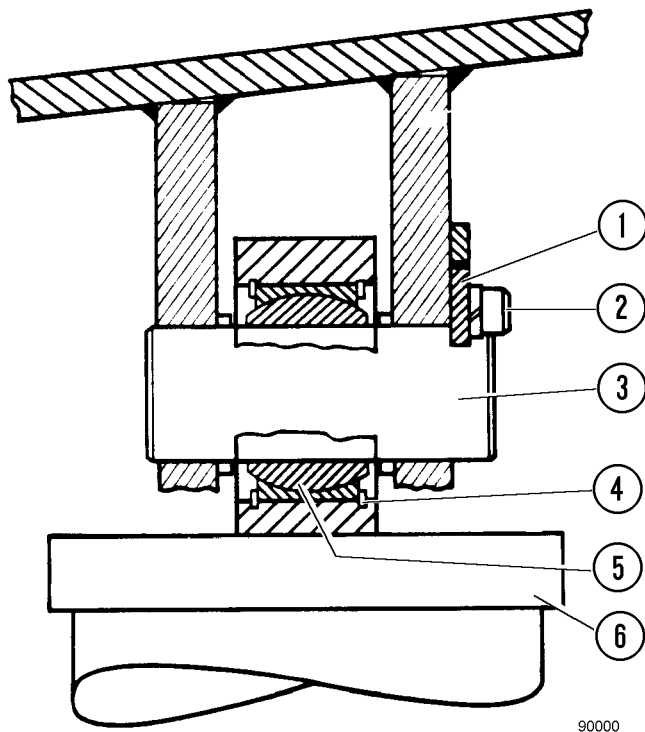

FIGURE 8-16. HOIST CYLINDER UPPER MOUNT
4. At the upper mount, remove capscrews and washers (2, Figure 8-16). Remove retainer plate (1). Use a brass drift and hammer to drive pin (3) from bore of mounting bracket.